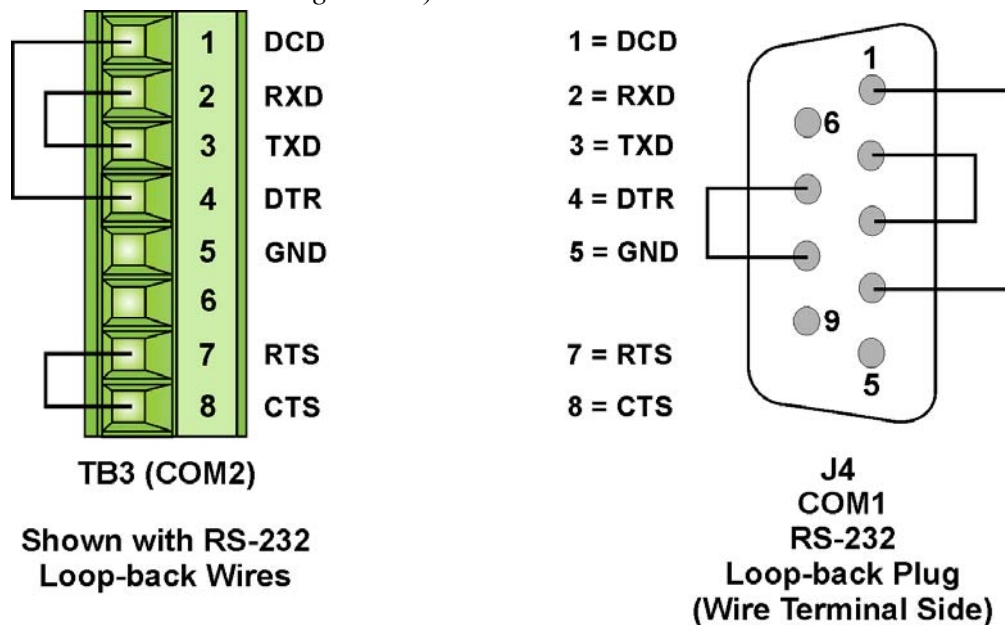

Figure 5-7. COM1 & COM2 RS-232 Loop-back Plug/Wires
- Port 1 - RS-232 uses a 9-pin female D-type loop-back plug (see *Figure 5-7*).
- Port 2 - RS-232 use loop-back wires (see *Figure 5-7*).